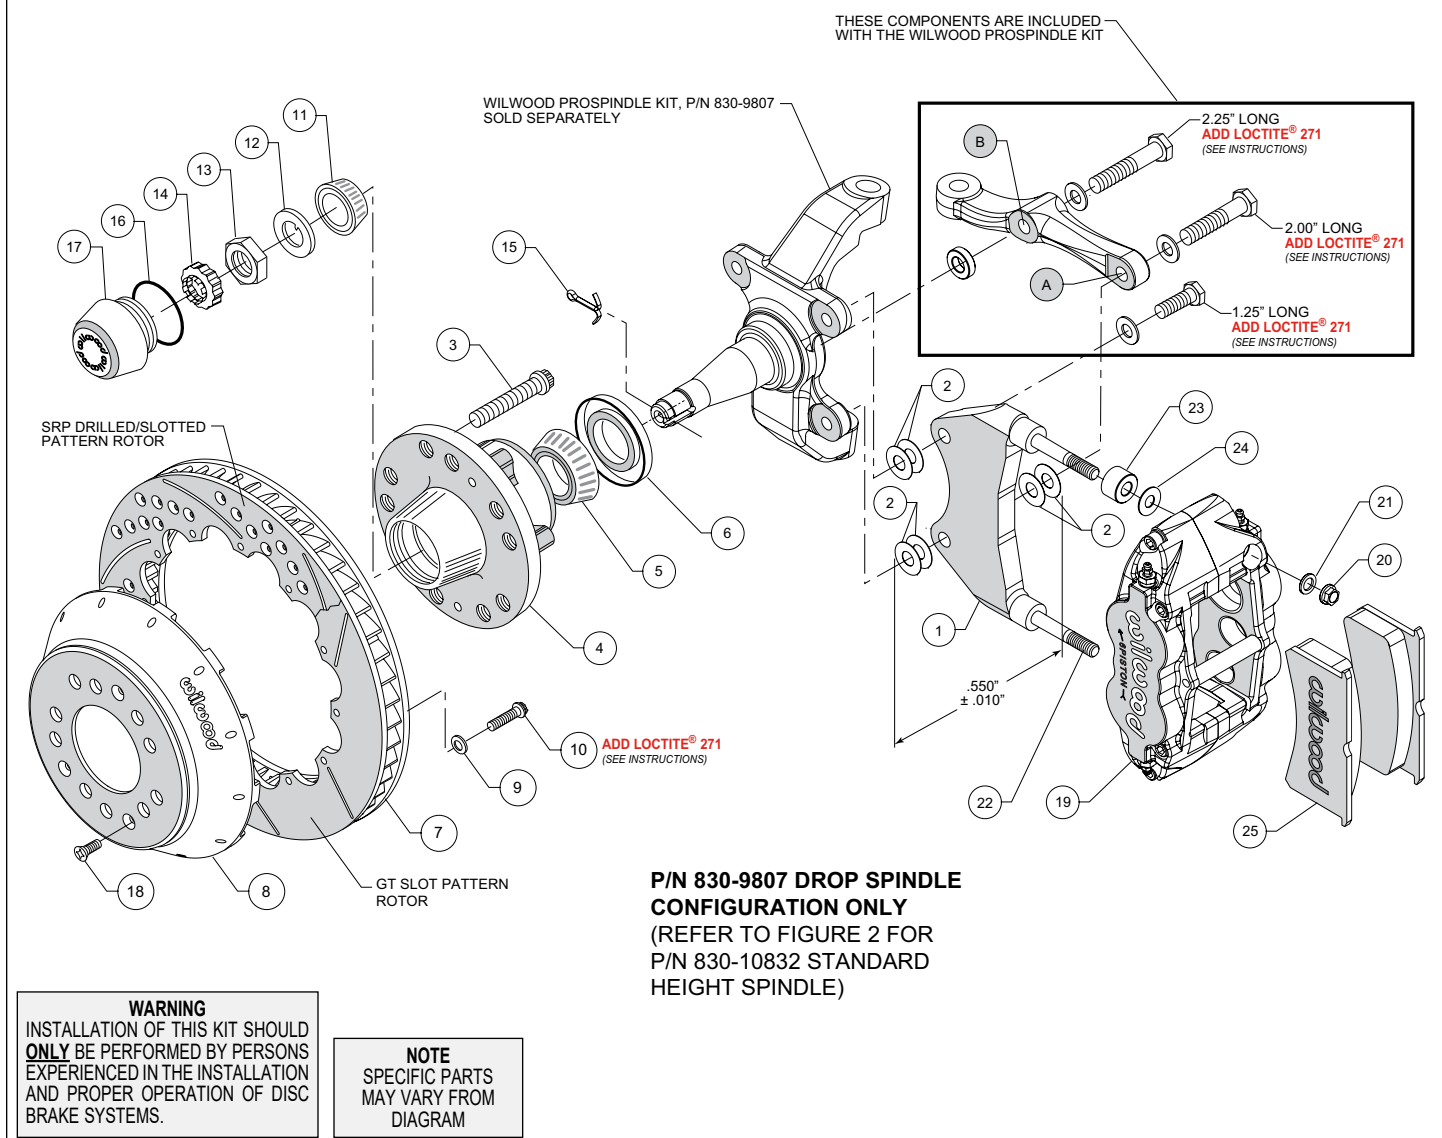
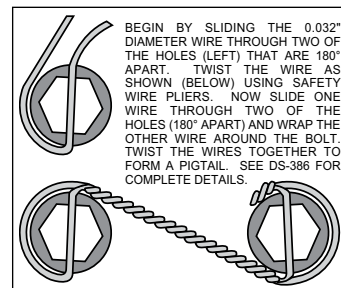

Figure 1. Installation Configuration For Drop Spindle, P/N 830-9807
Figure 4. Safety Wire Diagram
Assembly Instructions (numbers in parenthesis refer to the parts list and Figures 1 or 2 on the preceding pages):
- NOTE:** Each Wilwood ProSpindle kit includes bolts, washers, and a spacer to mount the steering arm and caliper bracket. The various bolts are identified by length in the following instructions and in Figures 1 and 2.
- Orient the bracket as shown in Figure 1 and Photo 1. Install at top spindle hole using 1.25" long bolt and .06" thick washer (from ProSpindle kit), and two .016" thick shims (2) between the bracket and spindle, Figure 1.
- Orient the steering arm, and identify the hole marked 'A', as shown in Figure 1. Install at bottom spindle hole using 2.00" long bolt and .06" thick washer (from ProSpindle kit), two .016" thick shims (2) between the bracket and steering arm, and another two .016" thick shims (2) between the bracket and spindle, Figure 1. The bracket is located between the steering arm and spindle. **NOTE:** The bracket and shim washers must add up to a total thickness of .550" $\pm$.010", Figure 1.
- Finish attaching the steering arm through the hole marked 'B', as shown in Figure 1. Install using 2.25" long bolt, .06" thick washer, and .25" thick spacer (all from ProSpindle kit), Figure 1.
- Pack the large inner bearing cone (5) with high temperature disc brake bearing grease (available from your local auto parts store) and install into the backside of the hub (4), Photo 4.
- Install the grease seal (6) by pressing into the backside of the hub (4), Photo 4.
- Orient the rotor (7) and the hat (8) as shown in Figures 1 or 2, and Photo 5. Attach rotor to hat using bolts (10) and washers (9). Apply red *Loctite*® 271 to the bolt threads and torque to 155 **in-lb** using a criss-cross pattern. For an added measure of security, the bolts may be safety wired using standard 0.032 inch diameter stainless steel safety wire as shown in Figure 4. Refer to Wilwood's data sheet DS-386 (available at www.wilwood.com/Pdf/DataSheets/ds386.pdf) for complete safety wire installation instructions.
- Pack the small outer bearing cone (11) with high temperature disc brake bearing grease and install into hub (4). Slide the hub assembly onto the spindle. Secure using spindle washer (12) and spindle nut (13), Photo 6. Bearing adjustment: Tighten the nut while turning the hub. When there is a slight bind on the bearings, they are seated correctly. Back the nut off about 1/6 to 1/4 of a turn, or sufficiently to allow .001" to .007" end play. **WARNING:** Failure to back off adjusting nut could cause bearing to run hot and be damaged, which could cause the wheel to lock or come off. Install spindle nut retainer (14) and cotter pin (15).
- Screw dust cap (17) into hub (4), Photo 7. Friction created by the o-ring (16) on the dust cap keeps it from unscrewing.
- Slide the hat/rotor assembly (7/8) onto the hub (4) taking care to align the small countersunk holes in the hat with the small threaded holes in the hub. **NOTE:** The hat must fit flush against the hub face or excessive rotor run out may result. Install three flat head screws (18) through the small holes in the hat (8), Photo 7, and torque to 85 **in-lb**.
- NOTE:** This kit contains distinct right and left hand calipers that must be mounted in a specific direction, as described below. Initially place one .035" thick shim (24), and spacer (23) on each stud (22) as shown in Figure 1 or 2, and Photo 8. Mount the caliper (19) onto the bracket (1) using lock nuts (20) and washers (21), Figure 1 or 2. Ensure that the caliper is mounted so that the largest pistons are at the rotor exit end of the caliper, in relation to the direction of rotor rotation. Temporarily tighten the lock nuts and view the rotor through the top opening of the caliper. The rotor should be centered in the caliper, Photo 9. If not, proceed as follows:
- For the lower bracket mount bolt, if a shim was added between the bracket and spindle, then a shim must be removed between the steering arm and bracket, such that the total thickness of bracket and shims remain equal to $.550 \pm .010$ ", Figure 1.